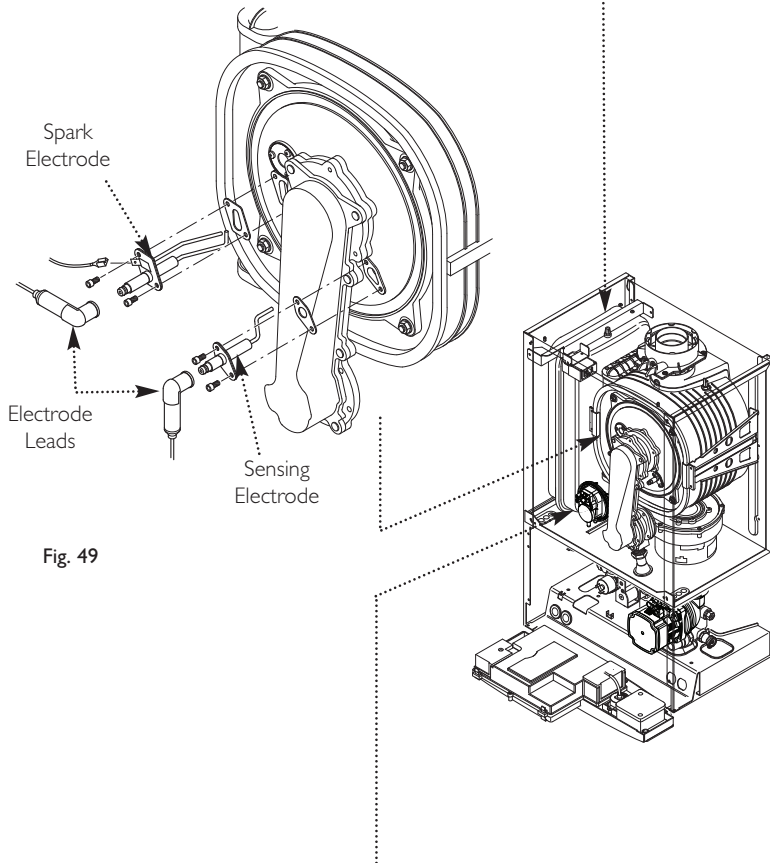

Fig. 49
13.2 Spark and Sensing Electrodes (Fig. 49)